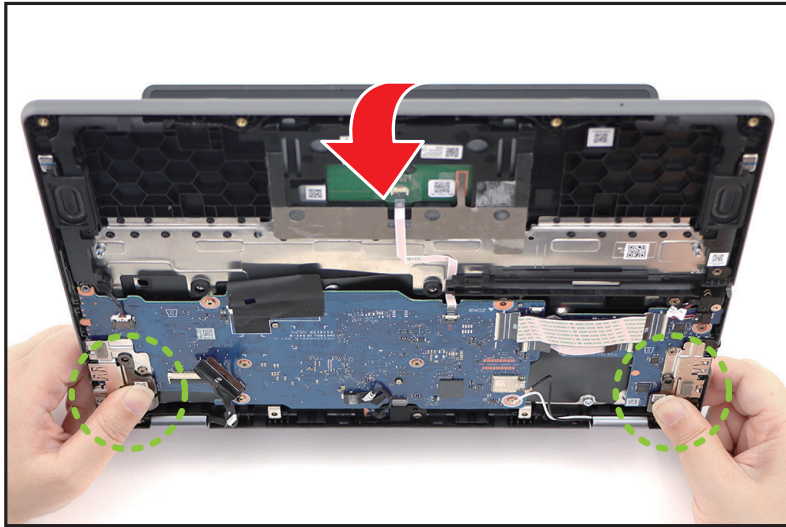

Figure 1-21. LCD Module Removal
5. By holding the LCD hinges, lift to open the top assembly (Figure 1-21).